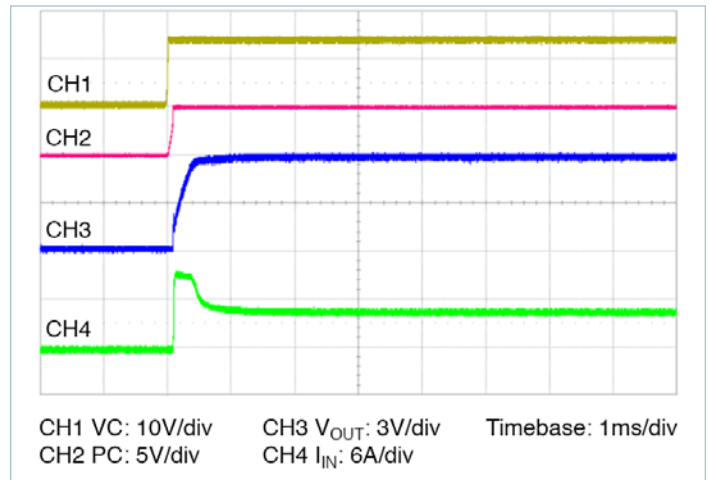

Figure 14 — Start up from application of VC; V_{IN} pre-applied $C_{OUT} = 4000\mu\text{F}$
- **Stand-alone operation (VC applied after V_{IN}):** In this case the VTM output will begin to rise upon the application of the VC voltage (See Figure 14). The Adaptive Soft-Start Circuit may vary the output rate of rise in order to limit the inrush current to its maximum level. When starting into high capacitance or a short, the output current will be limited for a maximum of 120 μ s. After this period, the Adaptive Soft-Start Circuit will time out and the VTM module may shut down. No restart will be attempted until VC is re-applied or PC is toggled. The maximum output capacitance is limited to 4000 μ F in this mode of operation to ensure a successful start.